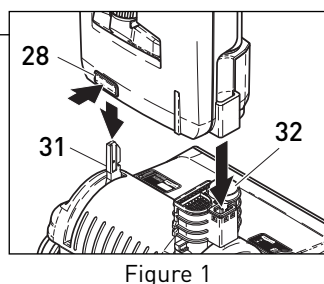

Figure 1
1. Place the power head (11) on the floor with the support lever (31) and the swivel neck (32) upright (figure 1). Hold the bag housing (21) vertically and place it over the swivel neck (32) and support lever (31). Push firmly and **evenly** down until the release button (28) locks. To dismantle, press the release button (28) and lift the bag housing (21) from the power head (11).